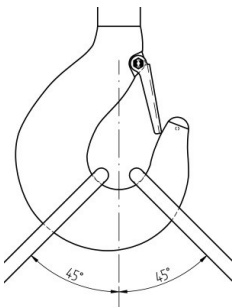

Fig. 1
- ▶ Side load must be avoided, load must be straight loaded with one sling, or with a maximum angle of 2x45° during use of two slings; (see Fig. 1)